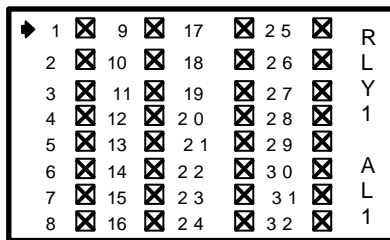

Figure 14-7 Select Channels Menu
- **Select Channels** brings up a Check Box (Figure 14-7) screen for assigning which of the Active Channels are assigned to this relay. This allows creating Zones among the active channels.